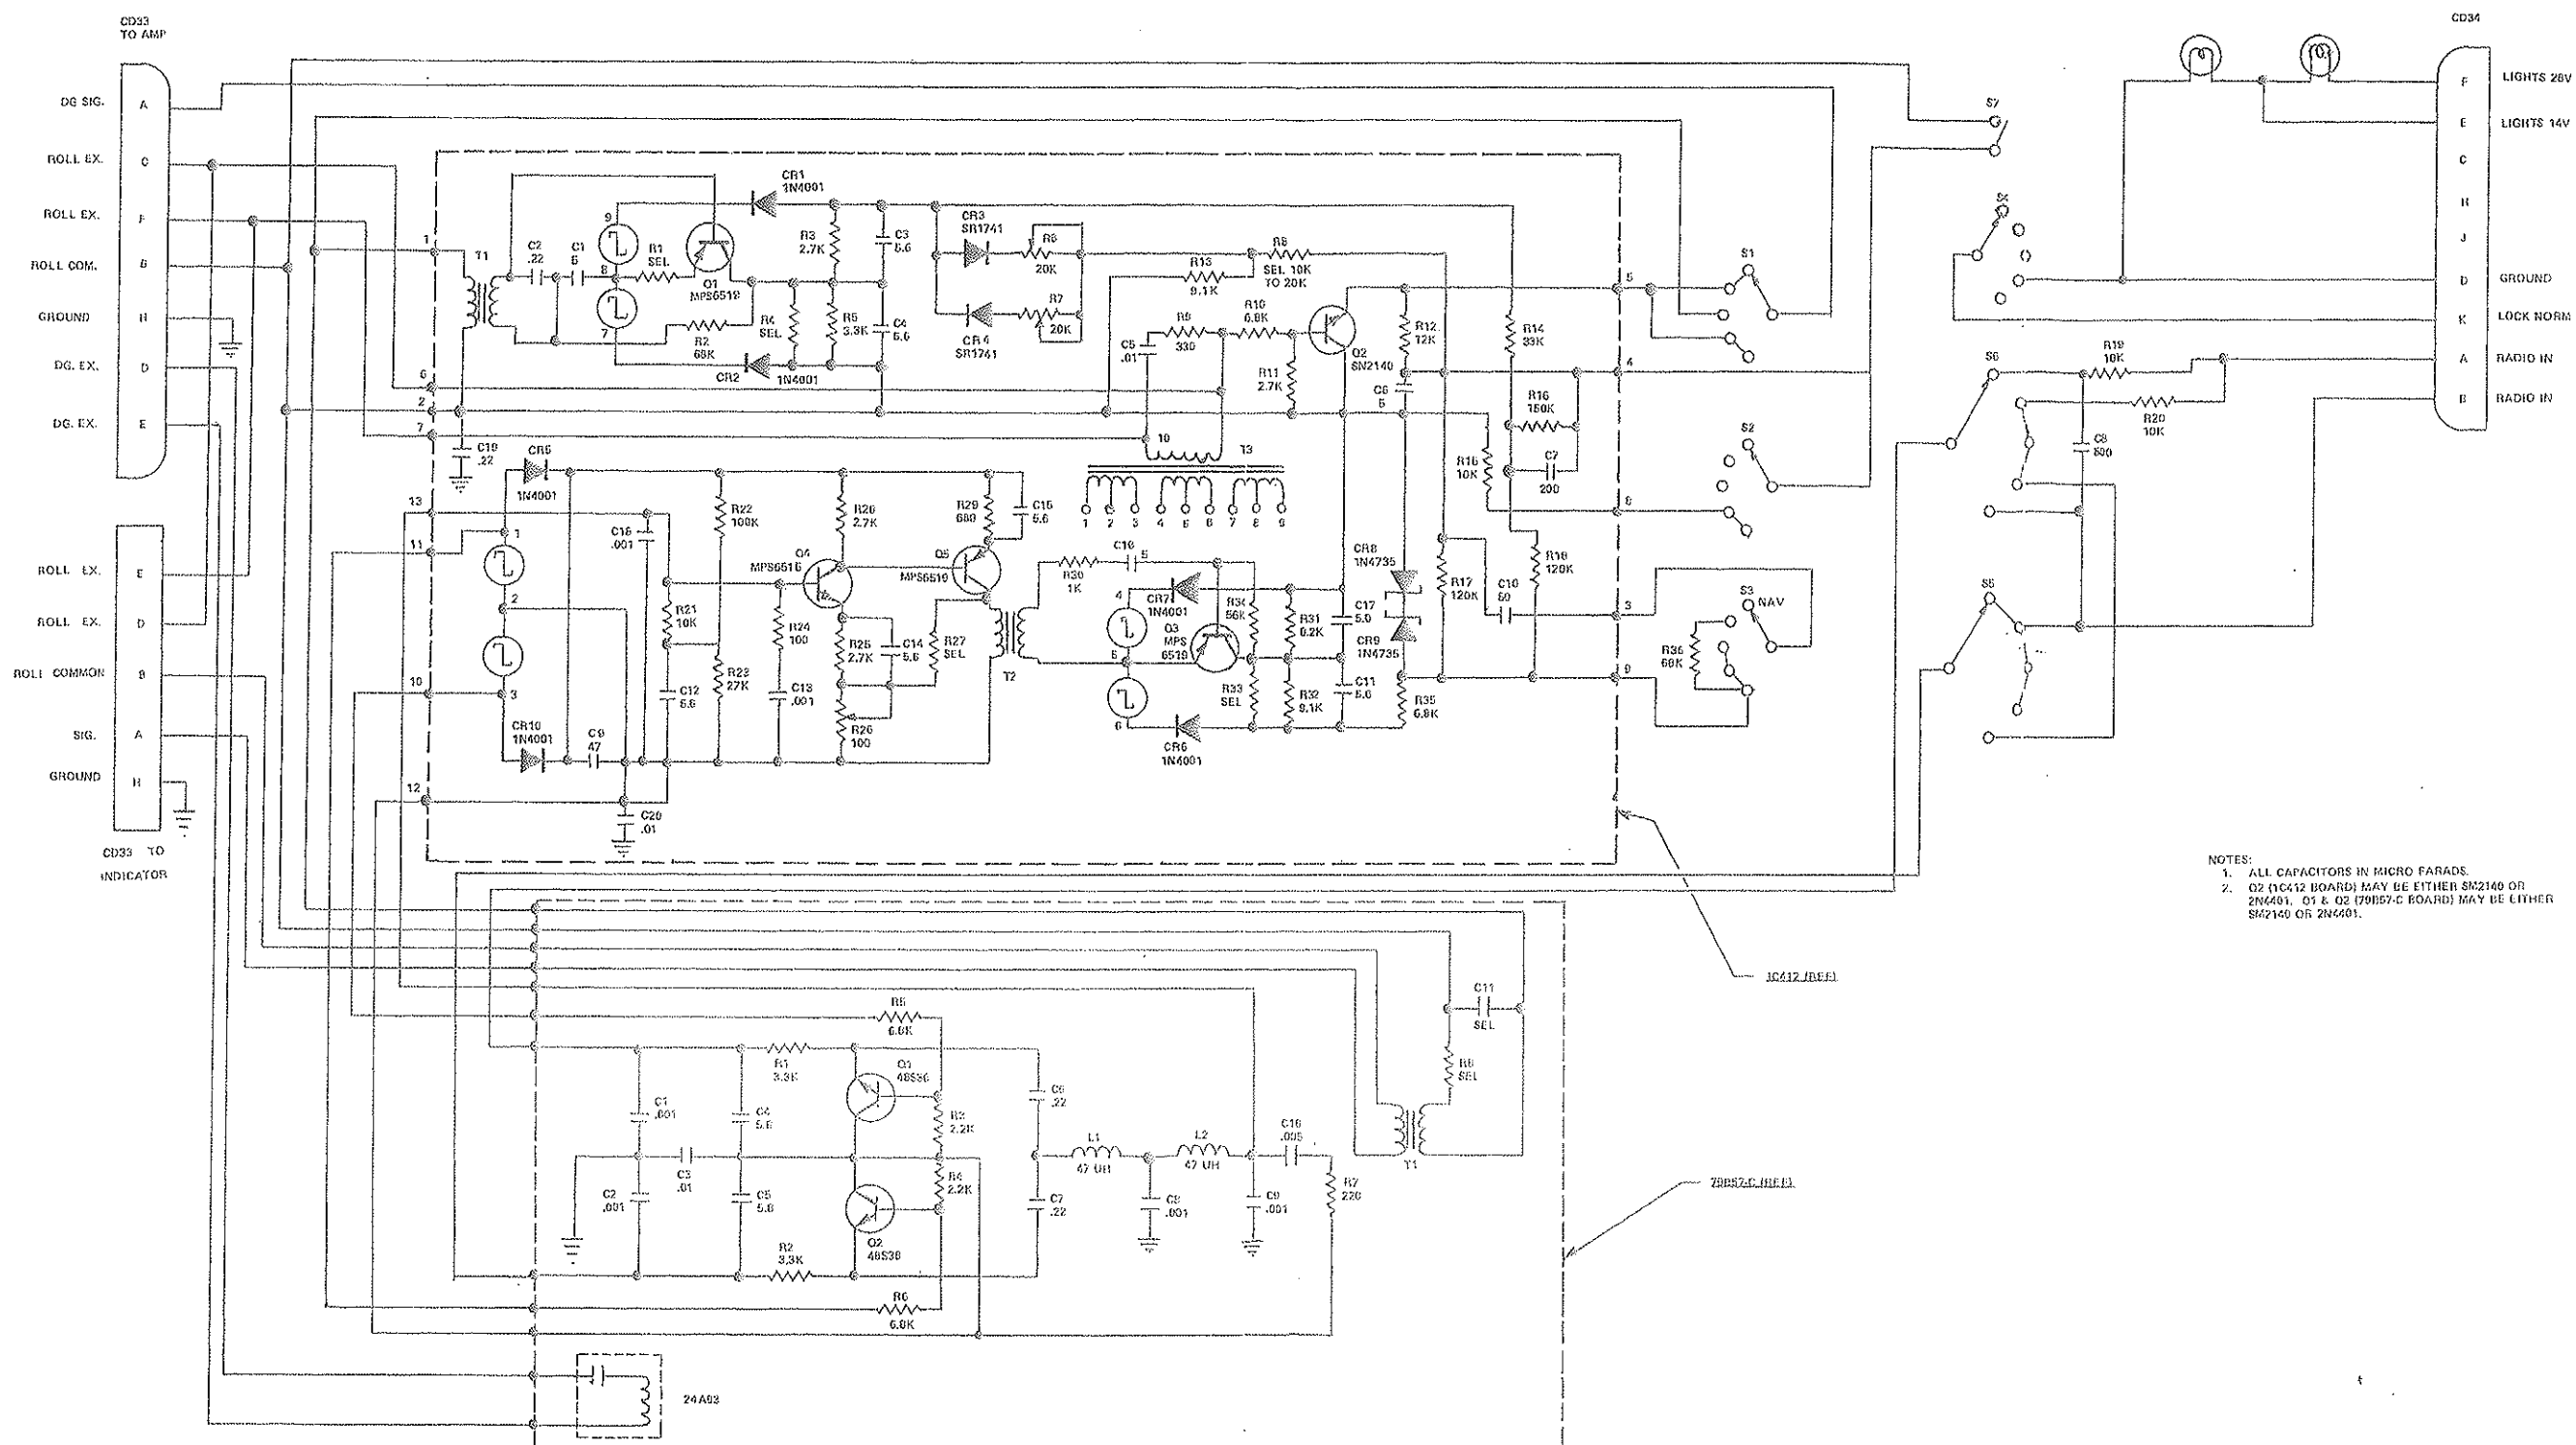

FIGURE 4-15
1. Set up test equipment per Fig. 4-15 or 4-16, use 52D54 Directional Gyro instead of gyro substitute.